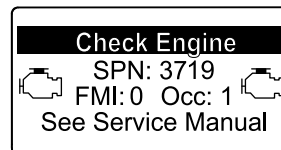

Figure 54
- If a recovery regeneration is needed, the InfoCenter displays engine warning SPN 3719, FMI 16 (Figure 54) and the engine computer derates engine power to 85%.